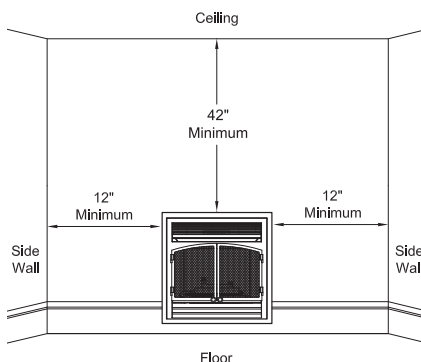

Figure 5 - Minimum Clearance for Combustible to Wall and Ceiling
- A. Clearance from the side of the fireplace to any combustible material and wall should not be less than 12" (see Figure 5).